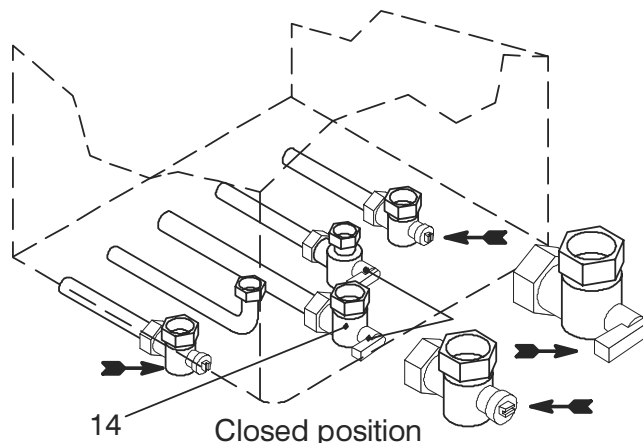

Fig. 2.12
- 2 Shut off the gas supply cock 14 and the valves for the water circuits fitted under the boiler (Fig. 2.12).